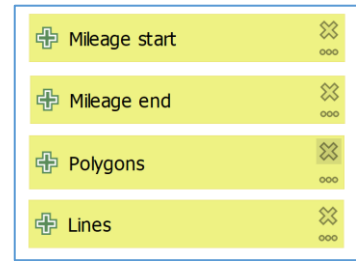

Fig. 6. Model inputs.
- F. You should now see four inputs in your model presented as light-green rectangles (Fig. 6). You can move them around on the canvas by clicking and dragging them with your mouse.